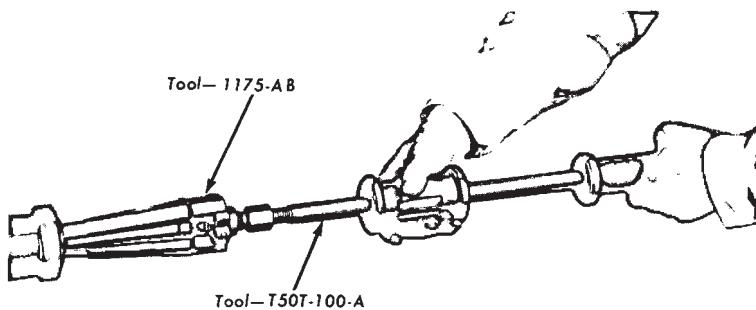

FIG. 19—Removing Extension Housing Seal
2. Carefully remove the seal with the tools shown in Fig. 19.